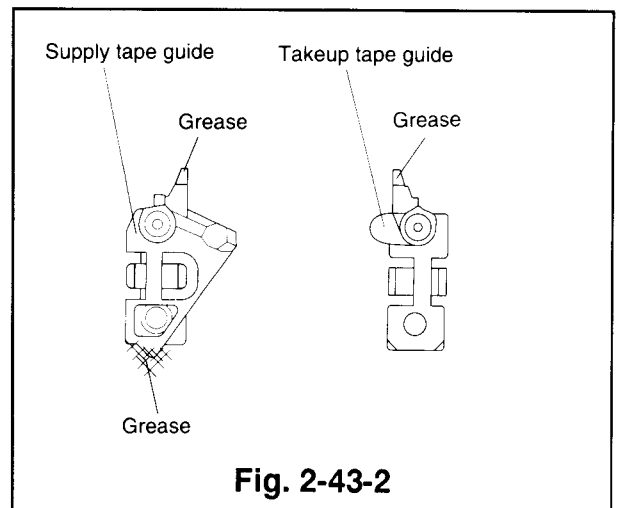

Fig. 2-43-2
- ① Apply grease (PG-641) [859D055O30] to the area shown in Fig. 2-43-2 of the supply tape guide assembly.